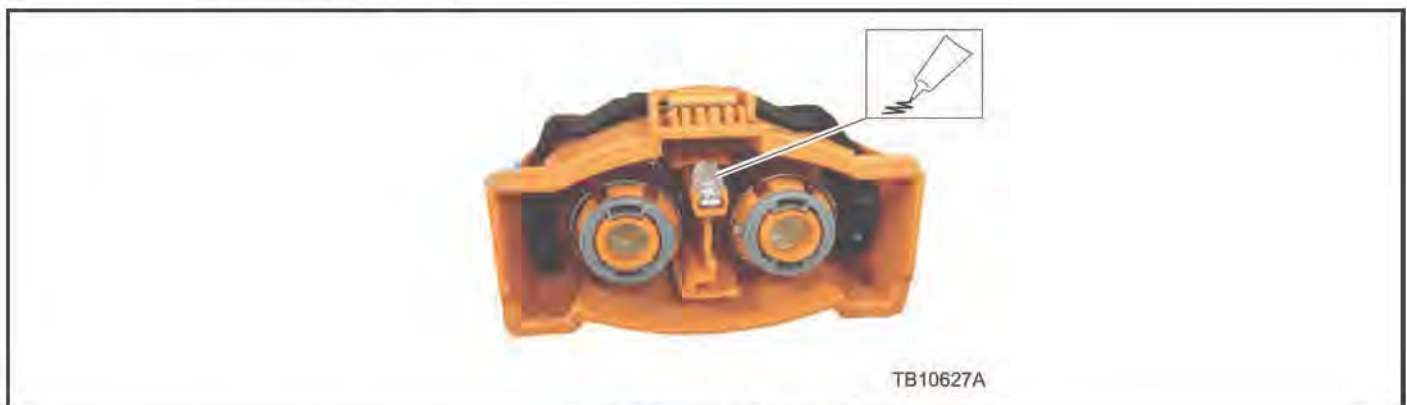

Figure 1 - Article 15-0031
3. Apply Motorcraft® Electrical Grease to the harness side high voltage system interlock (HVIL) terminals on the new harness. Proceed to Step 5. (Figure 1)
4. Clean the HVIL terminals on the harness side of transmission control module (TCM) connector C1822B, and apply Motorcraft® Electrical Grease to the harness side HVIL terminals. Proceed to Step 5. (Figure 1)